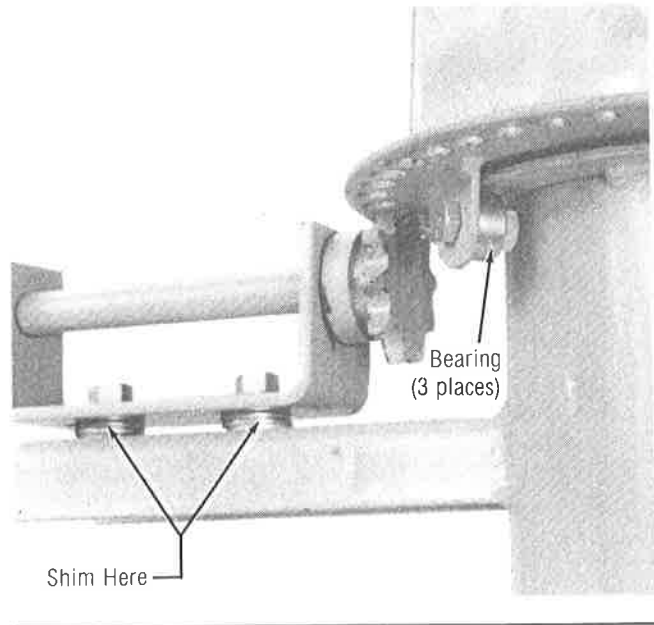

Figure 2 Crank Assembly
3. Install the crank assembly. See Figure 2. If the sprocket teeth do not fully engage the ring on the upper spout, shim the crank assembly with washers. Lightly lubricate the sprocket teeth, the areas of contact between the upper spout and the lower spout, and the areas where the crank contacts its brackets.